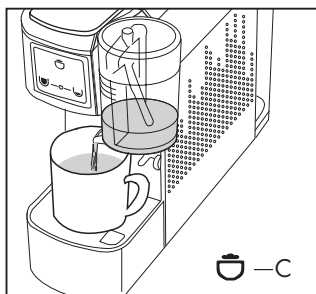

Fig. 14
• Press the button (C) ; the machine will dispense foamed milk. (Fig. 14)
• Fill the beaker (13) with the desired amount of milk, press and hold down the button (C)  to regulate the dispensing of hot milk for cappuccino, release the key when the desired amount is reached; in this way, the dose is stored for future use (Fig. 14)